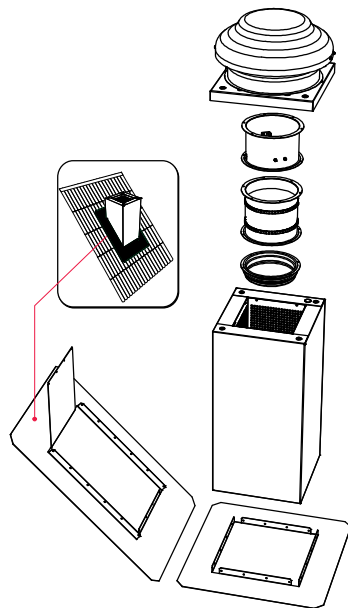

Fig. 5.5.21 Mounting and installation using accessories
- The device is mounted onto the chimney using accessories: reverse thrust valves, flexible connectors, and connection flanges. They have to be installed only as shown in Fig. 5.5.21.
- When the fan is attached to the chimney, put back the fan cover and screw it with four (4) screws.